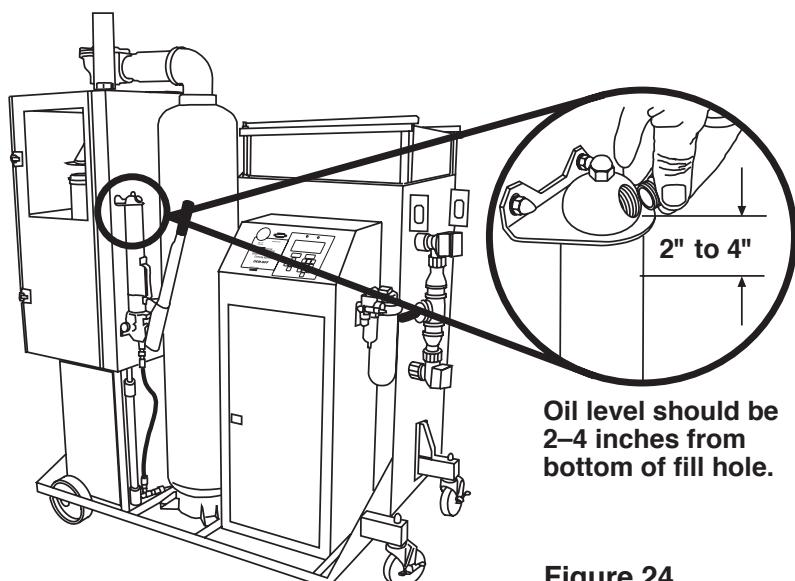

Figure 24
8. With the cylinders fully retracted, check the oil level in the pump reservoir by removing the fill cap located on the end cap of the pump. The oil should be within 2–4 inches from the bottom of the fill hole. See Figure 24. Add high-grade hydraulic oil, if needed.